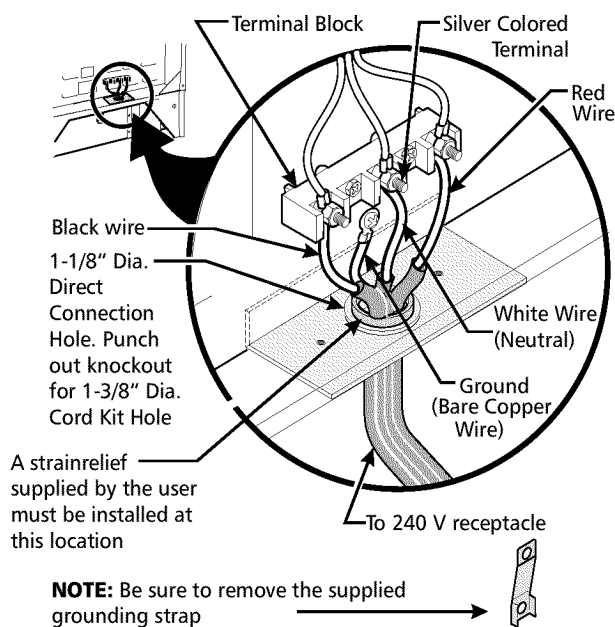

Figure 4
For mobile homes, new installations, recreational vehicles, or areas where local codes do not permit grounding through neutral, a 4 conductor power supply cord kit rated at 125/250 volts minimum, 40 amperes and marked for use with ranges should be used (see Figure 4).
4. Connect the ground wire (green) of the copper power supply cord to the frame of the appliance with the ground screw, using the hole in the frame where the ground strap was removed (see Figure 4).
6. Replace the 3 nuts on the terminal block (see figure 4).
If the appliance is connected directly to the circuit breaker, fuse box or junction box, use flexible, armored or nonmetallic sheathed copper cable (with grounding wire). Supply a U.L. listed strain-relief at each end of the cable. At the appliance end, the cable goes through the Direct Connection Hole (see Figure 4) on the Cord Mounting Plate. Wire sizes (**copper wire only**) and connections must conform to the rating of the appliance.